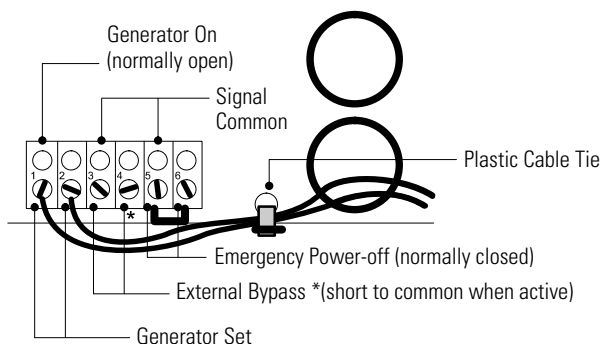

Figure 21. Input Control Signal Wiring (for External Controls)
14. If any external hardwired control signals are required (EPO or Generator On), connect the wiring as shown in Figure 21.